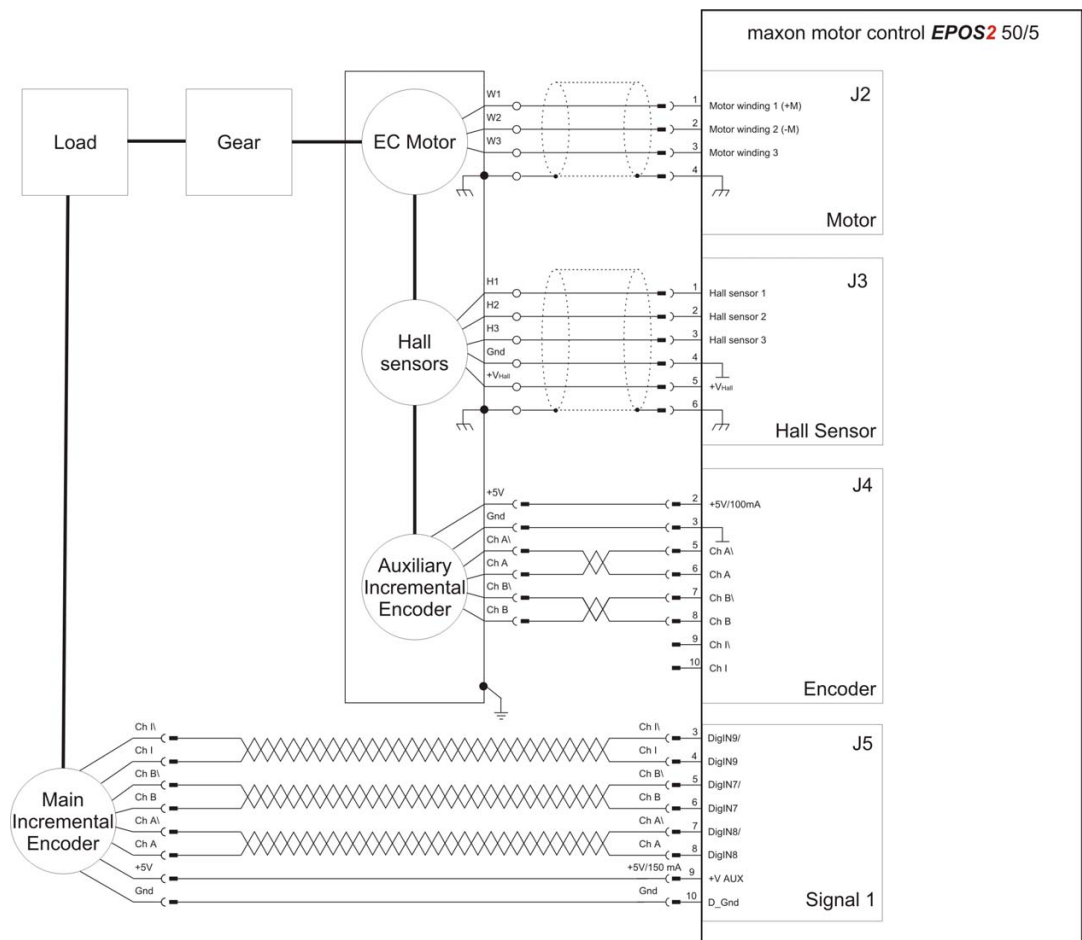

Figure 13-153 Example 2 – Wiring Diagram
- 1) Wire the system according to the wiring diagram (→Figure 13-153).